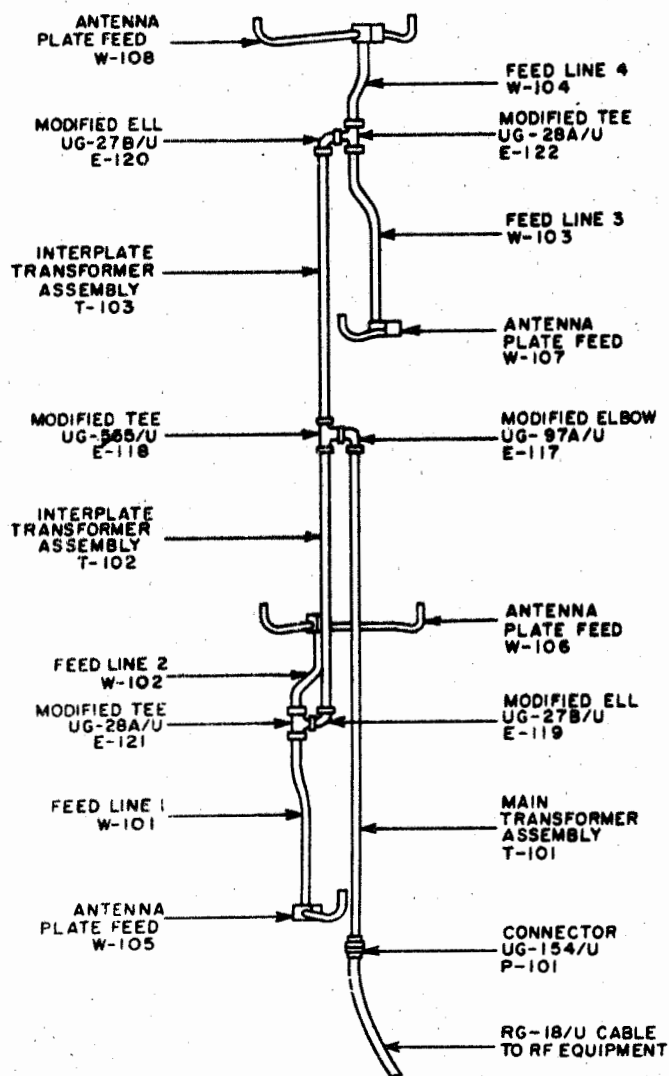

Figure 2-3. Antenna Feed System
(1) During transmission, r-f energy from the r-f equipment is fed to the antenna via RG-18/U cable terminated with a UG-154/U connector P-101. (See figure 2-3.) This connector is connected to main transformer assembly T-101 (antenna input) and it couples the r-f signal to coaxial fitting E-117, modified elbow UG-97A, and through it to E-118, modified tee UG-555/U. The tee splits the r-f signal and couples the two signals to interplate transformer assemblies T-102 and T-103 for feeding the upper two and lower two antenna bays. The r-f signal from T-102 and T-103 is fed through E-119 and E-120, modified ells UG-27B/U, to E-121 and E-122, modified tees UG-28A/U. The tees split the r-f signal and couple them to feed lines W-101 through W-104 which feed the antenna plate feeds W-105 through W-108. The feed lines consist of different lengths of RG-8/U cable and cause the phase of the r-f signal in the upper antenna bay to lag